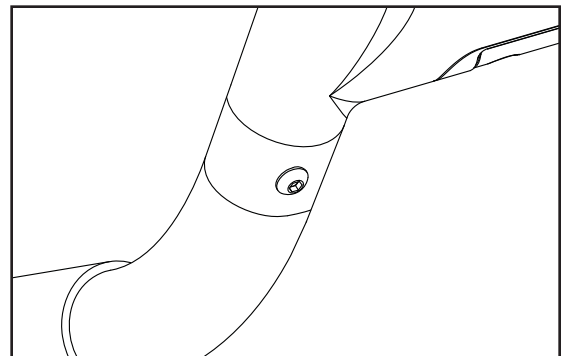

Figure 17
**9-4** Loosely attach the supplied Hex screw to the upper handrail/handlebar weldment junction using the 5/32" (4mm) T-handle (see Figure 17).